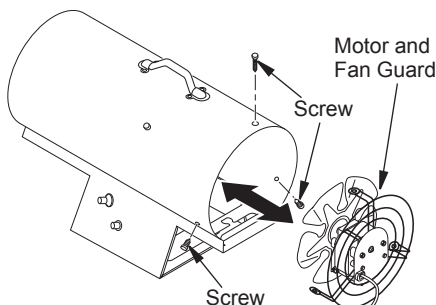

Figure 5 - Removing Motor and Fan Guard from Heater (Heater may vary from illustration)
2. Access ground screw through underside of heater base. Remove ground screw. Disconnect the green motor wire and the green power cord wire from underside of shell (see Figure 5).
5. Remove screws holding motor mount to shell. Use nut-driver (see Figure 5).
14. Carefully route motor wires through hole in shell. Place motor, motor mount and fan guard into rear of heater shell, as shown in Figure 5.